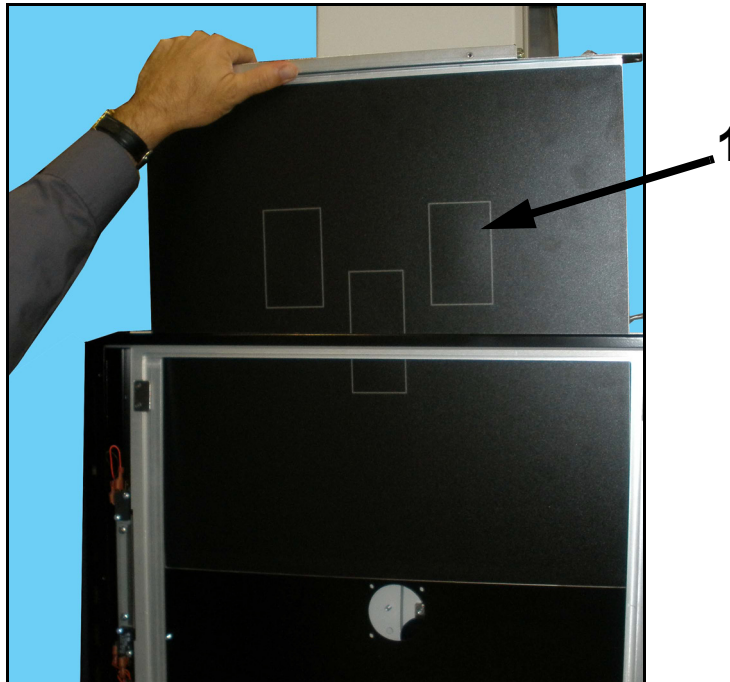

Figure 5-12. Ion Chamber Removal
- 13** Slide the ion chamber out as shown below (1 in Figure 5-12).